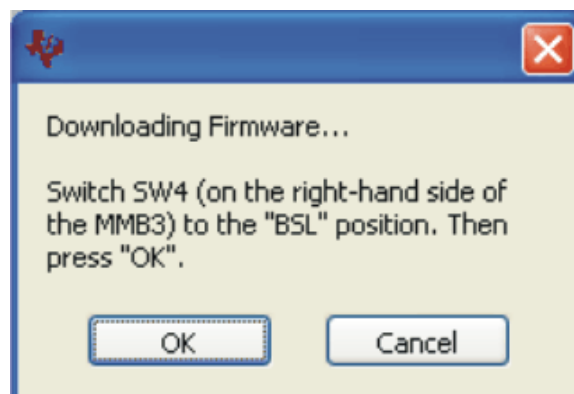

Figure 12. Firmware Download Message Box
- Step 5. The plug-in detects whether or not the board has the correct firmware loaded. The first time you use the ADS1247EVM-PDK, the firmware for the MMB3 may need to be downloaded to the MMB3. If the firmware needs to be loaded, you will see a screen similar to that shown in Figure 12.